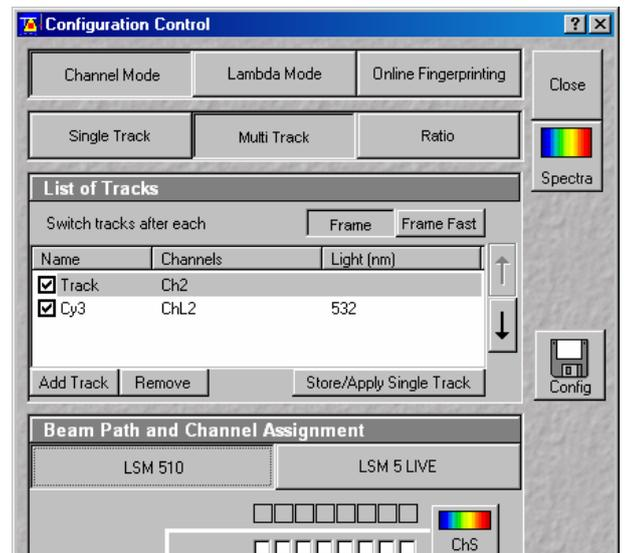

Fig. 15 Configuration Control window for Multi Track (LSM 510)
- Select **Channel Mode** if necessary (Fig. 15).
- Click on the **Multi Track** button in the **Configuration Control** window (Fig. 15).
The following functions are available in the **List of Tracks** panel (Fig. 15).